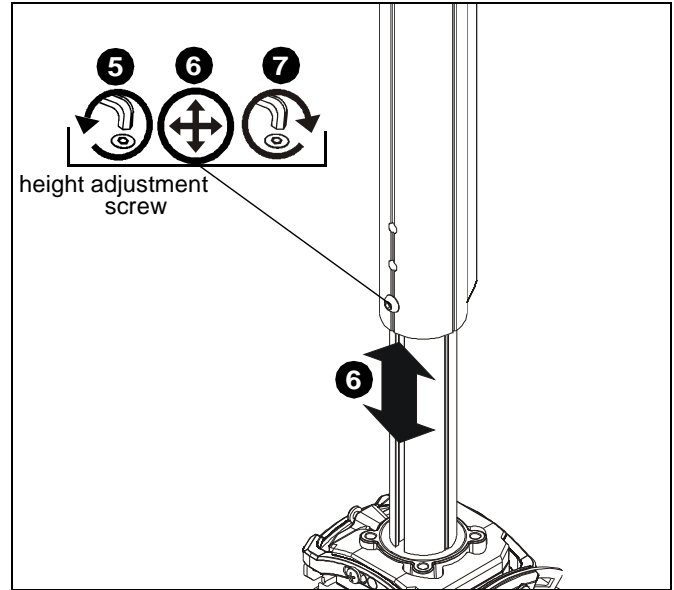

Figure 2
5. Loosen height adjustment screw. (See Figure 2)
6. While supporting the weight of the projector mount, adjust height as desired. (See Figure 2)
7. Tighten height adjustment screw. (See Figure 2)